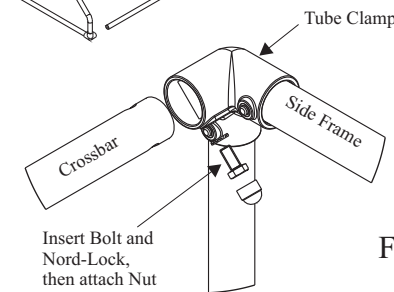

Fig 3
3 Slot Each Crossbar into the open end of a Tube Clamp and fasten using the M12 x 25mm Bolts (3), M12 nord-lock (4) & M12 Nut Cap (6) (as shown in Figures 3 & 4).